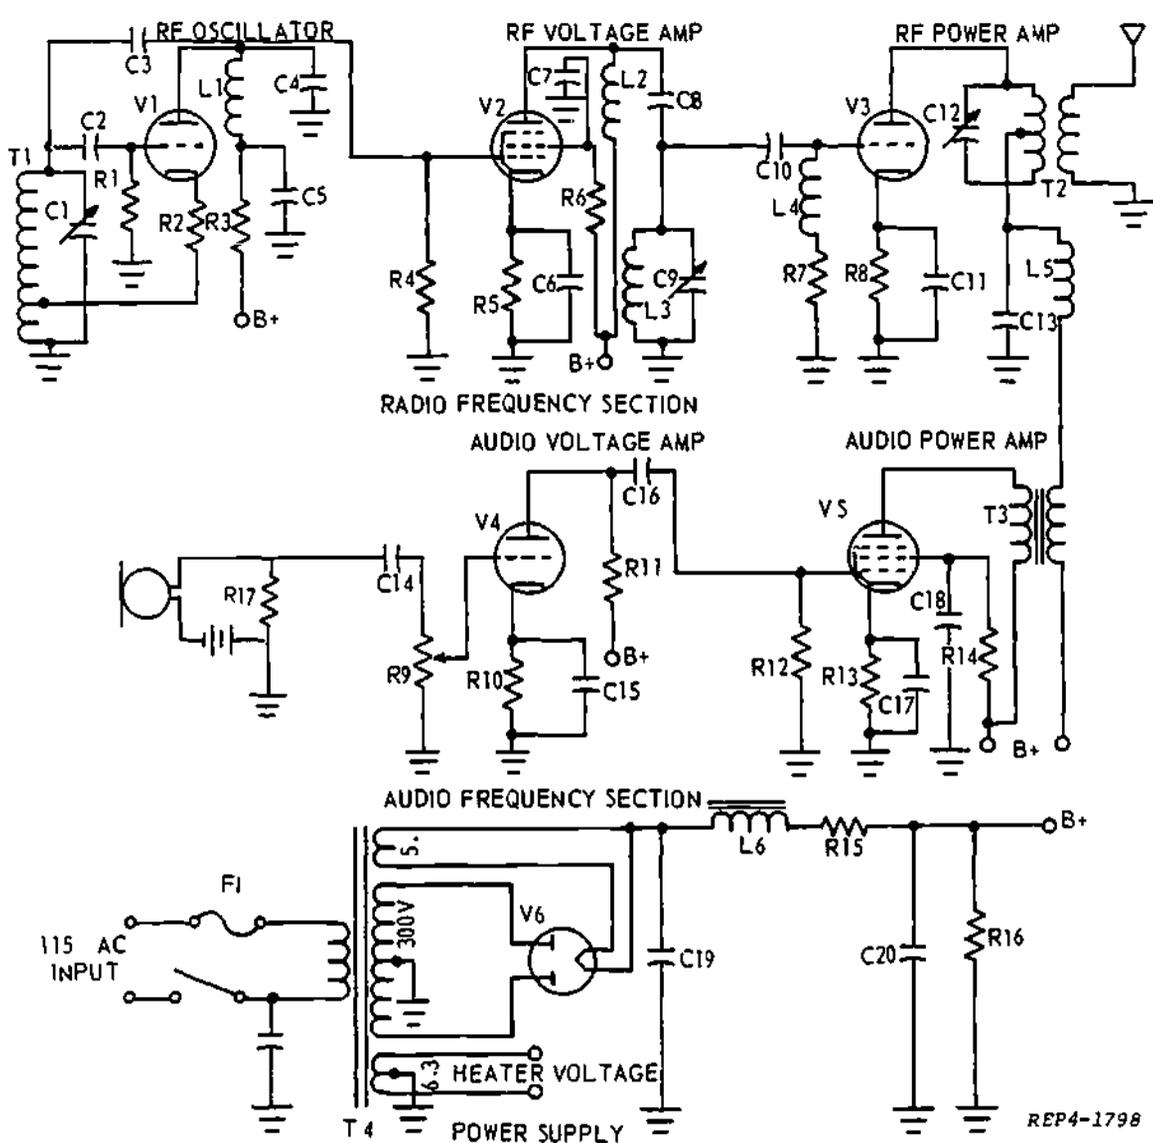

Figure 5
NOTE: Use figure 5 in answering questions 1 through 10.
9. In figure 5, modulation is accomplished by varying the \_\_\_\_\_ of V \_\_\_\_\_.
10. The percent of modulation of the transmitter (figure 5) will (increase)(decrease) if the wiper arm of R9 is moved toward ground.